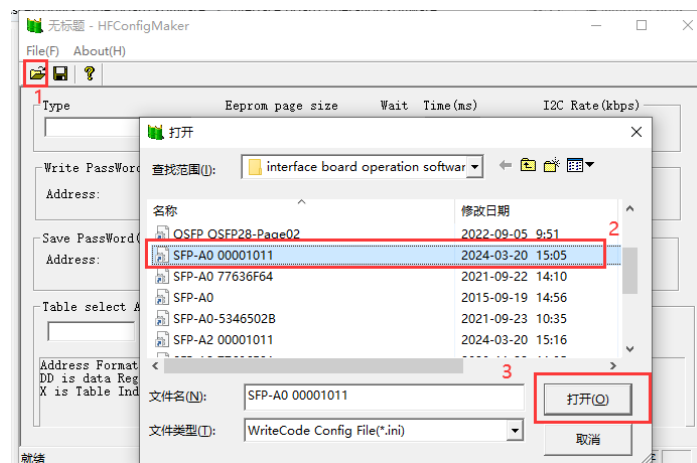

Figure 39
2. Click the  Or select the menu : File->Open(O) >"SFP-A0 00001011"configuration file (as shown in Figure 39)